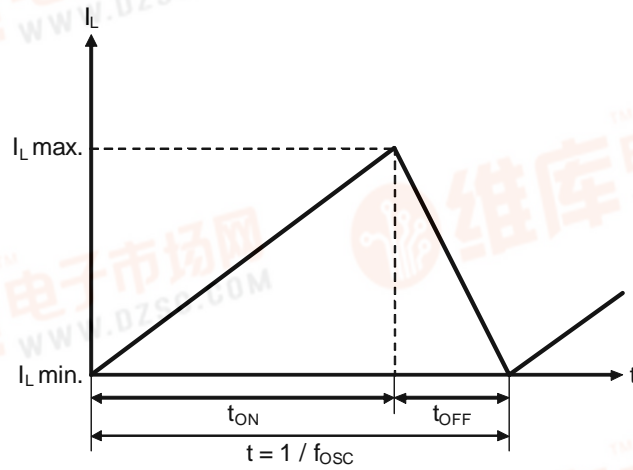

Figure 16 Critical Point (Current Cycle of Inductor Current  $I_L$ )
While the output current (IOUT) continues to decrease, IIN(DC) reaches 0 as shown in **Figure 16**. This point is the critical point of the continuous mode.